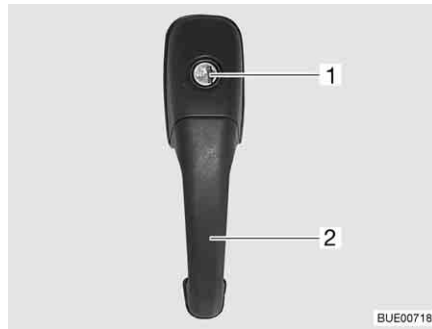

Fig. 41 Door lock of conversion door, outside
- Insert the key into locking cylinder (Fig. 41,1) and turn until the door lock is unlatched.
- Pull on the handle (Fig. 41,2). The door is open.
- Insert the key into locking cylinder (Fig. 41,1) and turn until the door lock is engaged.